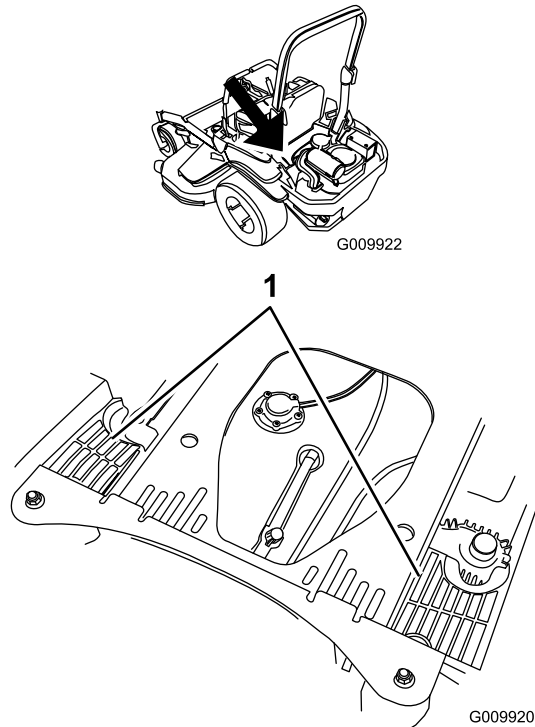

Figure 75
4. Clean the debris and grass from the hydraulic-unit shrouds (Figure 75).